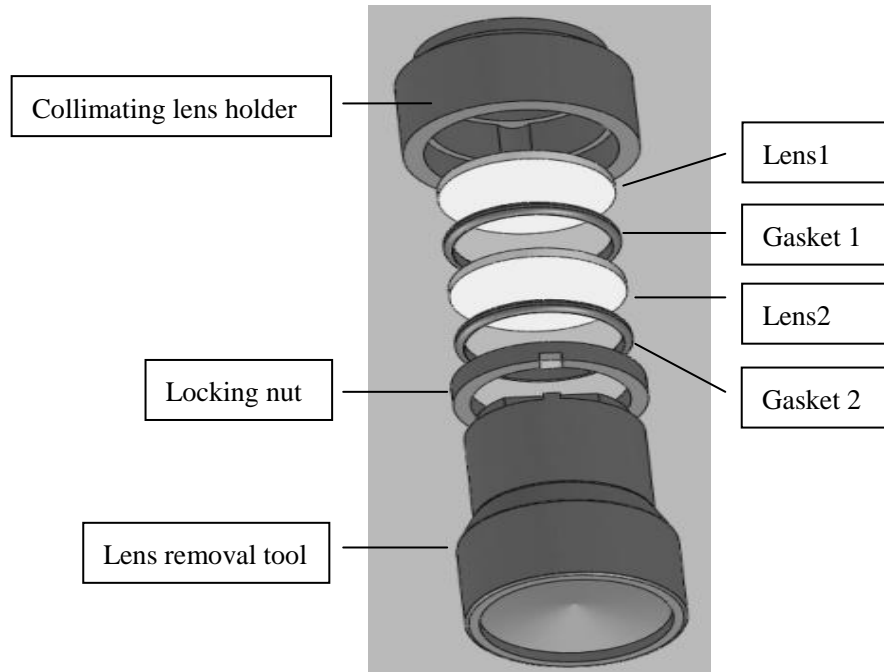

Fig.15-1
1. Place the lens removing tool at the platform, wear finger cots, and then place the following items at the removing tool in order: locking nut—gasket 2—lens 2—gasket 1—lens 1, which is as shown in Fig.15-1.